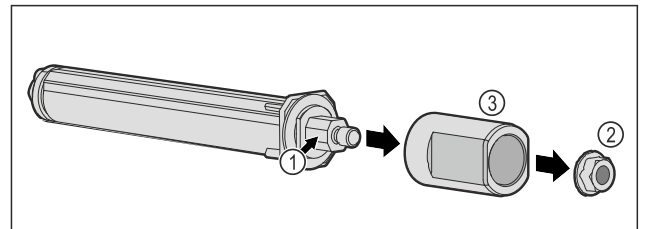

Fig. 54
- ▶ Do not dismantle the door locking system Fig. 54 (1).
- ▶ Remove the nut Fig. 54 (2).
- ▶ Remove the sleeve Fig. 54 (3).